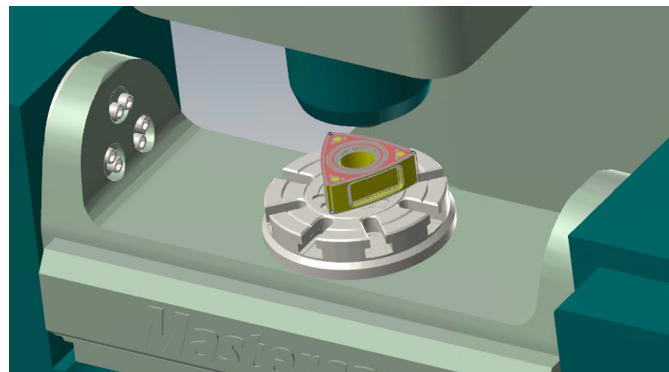

Fig 5.
- Lastly, the code (G code, **Fig 4**) is created to upload into a CNC machine, which reads and performs the specific movements to manufacture the part. The final product is shown in **Fig 5**